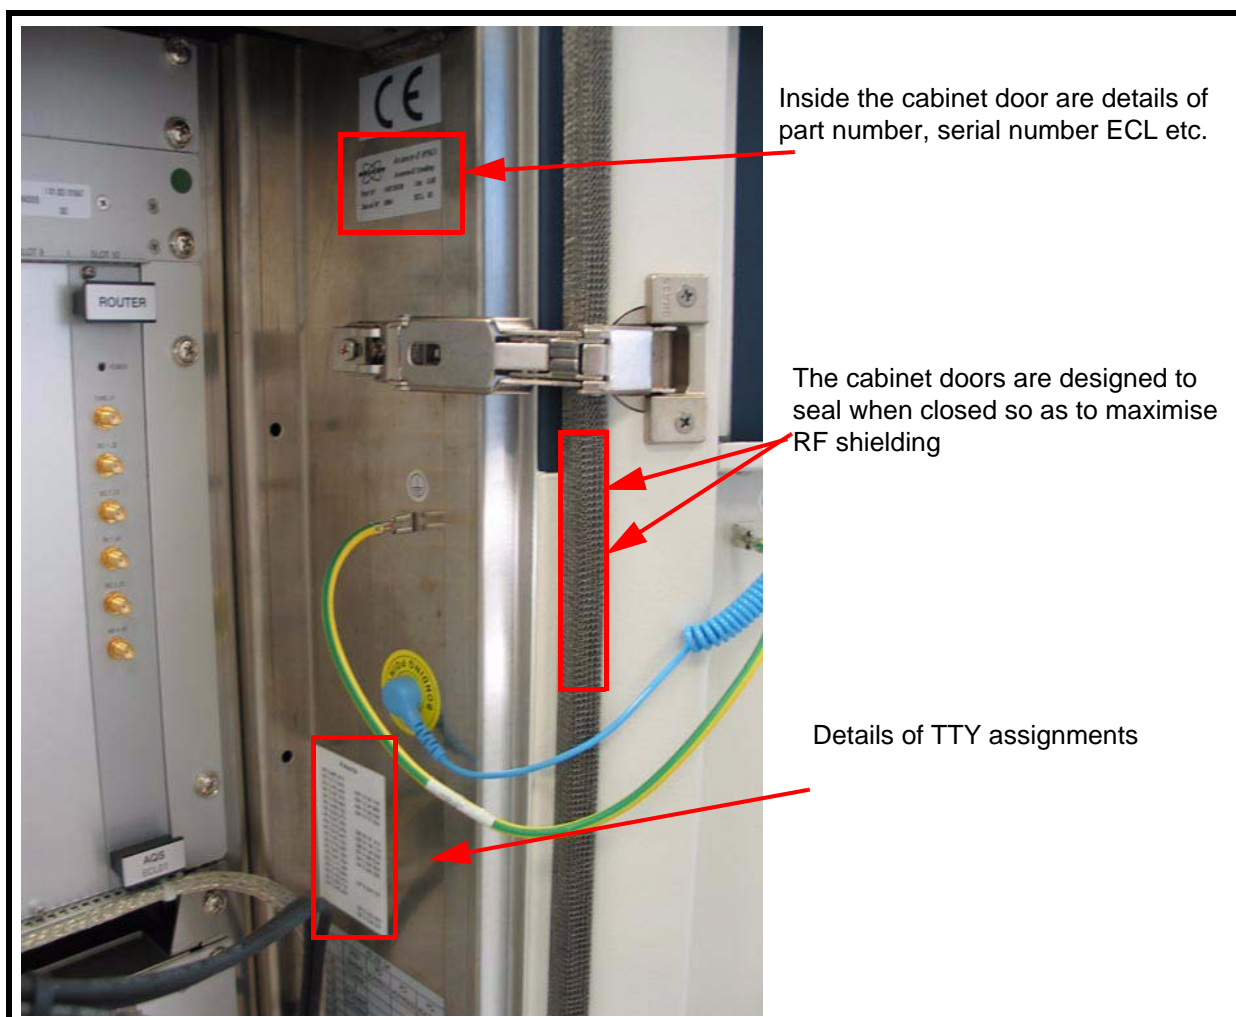

Figure 2.9. Cabinet Production Details
- The cabinet should be left permanently closed when operating as this will maximize the shielding and reduce the effect of any electromagnetic disturbances from outside. Care is taken in choosing the material from which the cabinet is constructed to maximize radiation shielding. Keeping the cabinet closed will also reduce any disturbances caused by temperature fluctuations. The cabinet is designed to be sealed from electromagnetic interference (see **Figure 2.9**). It is worth noting that steady temperatures in the laboratory itself are always conducive to reliable NMR data.
The location of the serial number and ECL level of the cabinet is shown **Figure 2.9**. While the physical structure of the cabinets is relatively independent of any